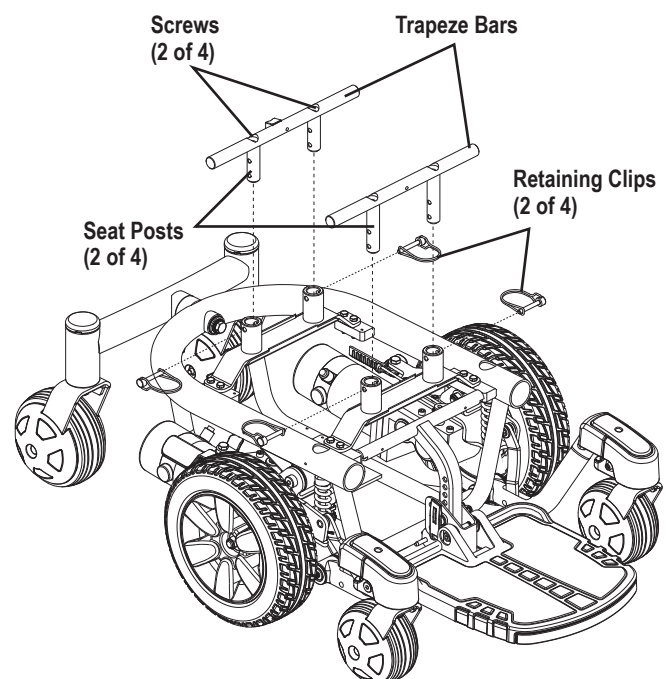

Figure 13. Seat Height Adjustment–Trapeze Bars
8. Loosen the screws that attach the trapeze bars to the seat posts. **See figure 13.**
9. Remove the retaining clips that secure the seat posts to the power base. **See figure 13.**